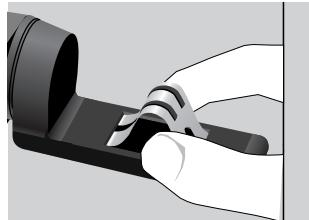

Figure 2-9. Inserting the Optional Film.
3. If the handset still does not lift up far enough, replace the standard lifting film with the optional film, as shown, and repeat test in positions 1-3 until the handset lifts up (Figure 2-9).